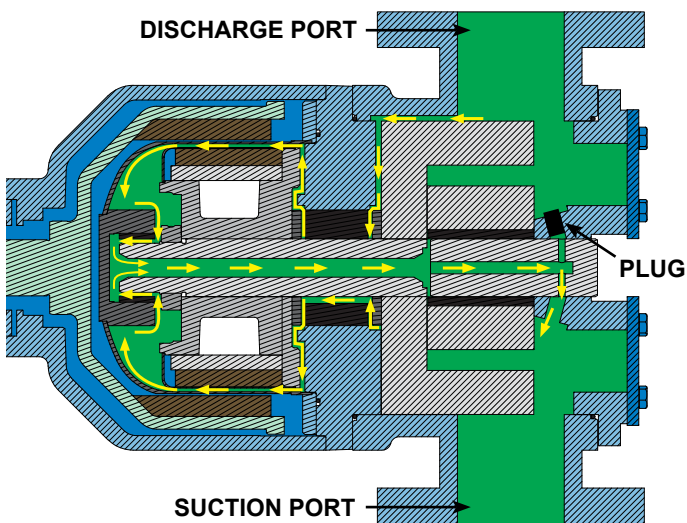

FIGURE 14
11. Insure pipe plug is installed in the discharge side of the head and that the suction side hole is unobstructed. **See Figure 14.**
The pump is designed to operate in either direction. Process fluid is generally fed to the inner thrust washer and bushing interface and then through a groove in the bushing to the outer thrust washer. Then the fluid is pulled into the canister bushing and back through the hollow shaft and idler pin to the suction side of the pump. When the pump is operated in the opposite direction, the fluid flow is reversed, see **Figure 14**.